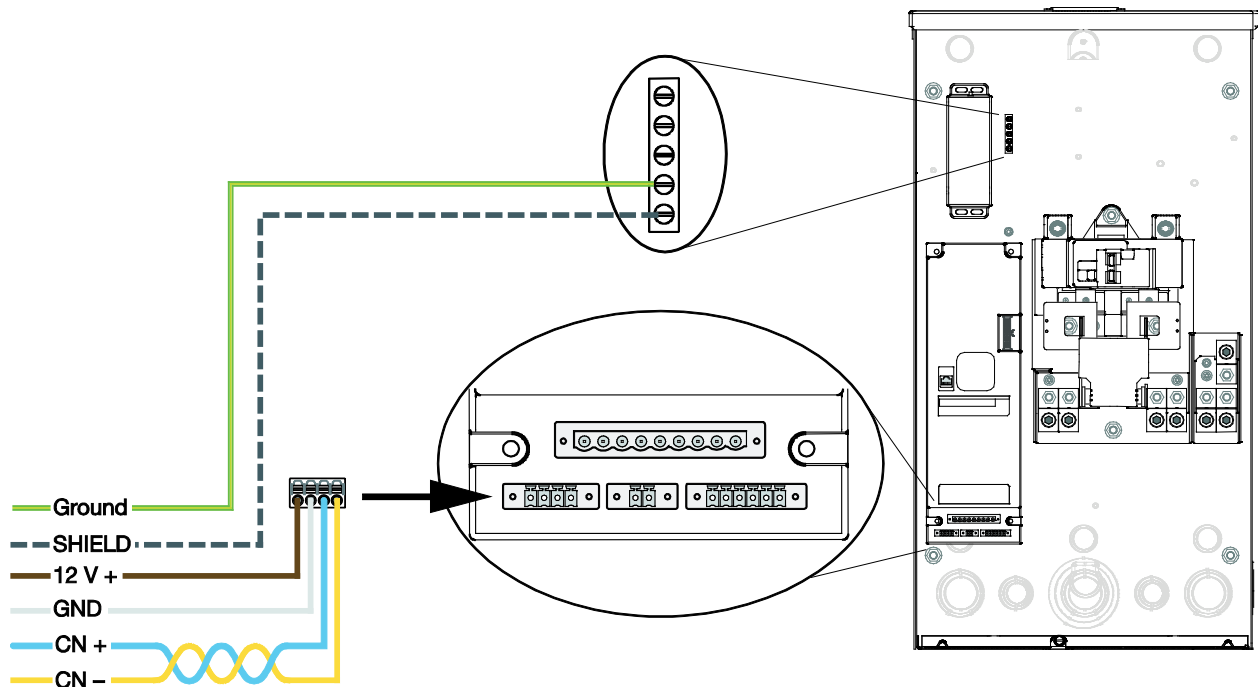

Figure 35: Backup Gateway Ground and Communication Connections
6. On the Backup Gateway side, strip the end of the high-voltage grounding conductor and insert it in the ground bar in the Backup Gateway enclosure (Fig 35). The ground bar is identified with the following symbol: . Tighten the screw in the ground bar to 5.5 Nm (50 lb-in).